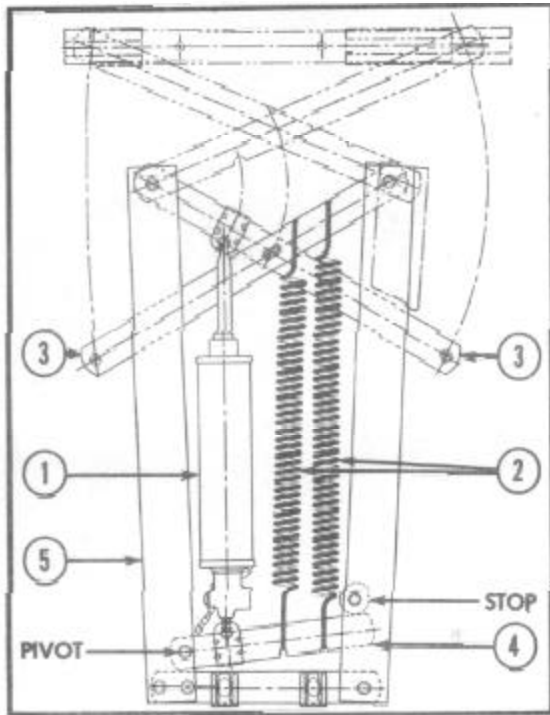

FIGURE 115
The window regulator frame assembly, Figure 115, is designed as a unit to provide a mounting for the cylinder assembly (1) and retracting springs (2), and for the cross arms (3), which control the window and hold it in alignment. The cross arms are conventionally connected to the window by sliding studs.
The retraction springs, at the lower ends are connected to this same expansion arm (4), Figure 115, between the cylinder and the stanchion side member. The upper ends of the retraction springs are connected to the moveable cross arm (3).